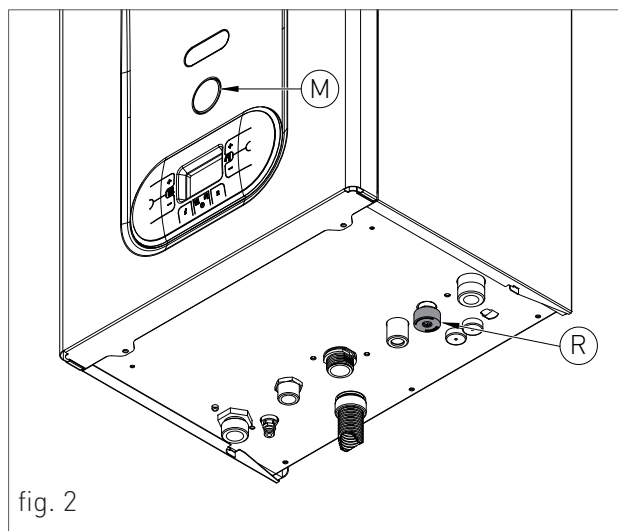
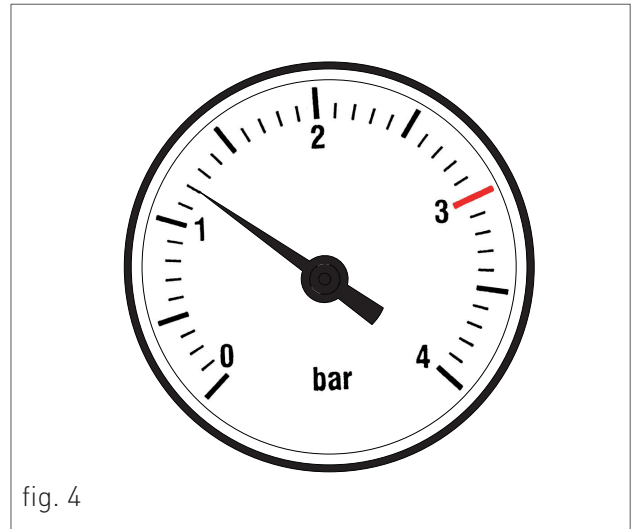

fig. 2
fig. 4
**THIS BOILER HAS BEEN DESIGNED FOR OUTDOOR INSTALLATION IN A PARTIALLY PROTECTED LOCATION (SEE FIG.2 AT CHAPTER 'POSITIONING AND MINIMAL TECHNICAL SPACES').**
It is allowed an outdoor installation in a partially protected location (i.e. shelter, balcony) that respect the minimum measure indicated in figure 2.
4. open the feeding tap "R" (fig. 2);
6. use pressure gauge "M" (fig. 2) to make sure that the system pressure reaches 1.2 bar (fig. 4);
7. after performing this operation, make sure that the loading tap "R" (fig. 2) is properly closed.
10. if after performing these operations you observe a decrease of the water pressure inside the system, open once again the loading tap "R" until the pressure gauge indicates the value of 1.2 bar (fig. 4)